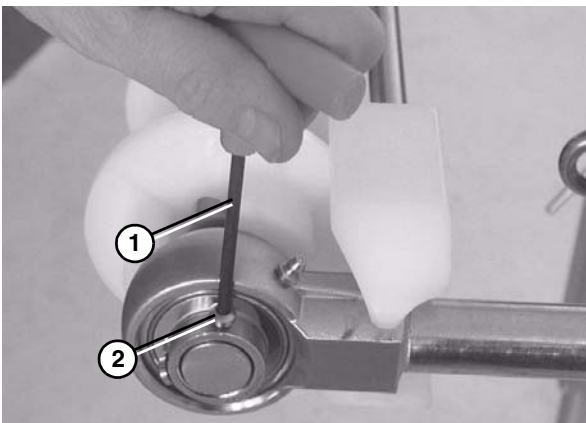

Figure 67
4. Use a hex wrench (Figure 67, item 1) to loosen the bearing shaft assembly fasteners (Figure 67, item 2).